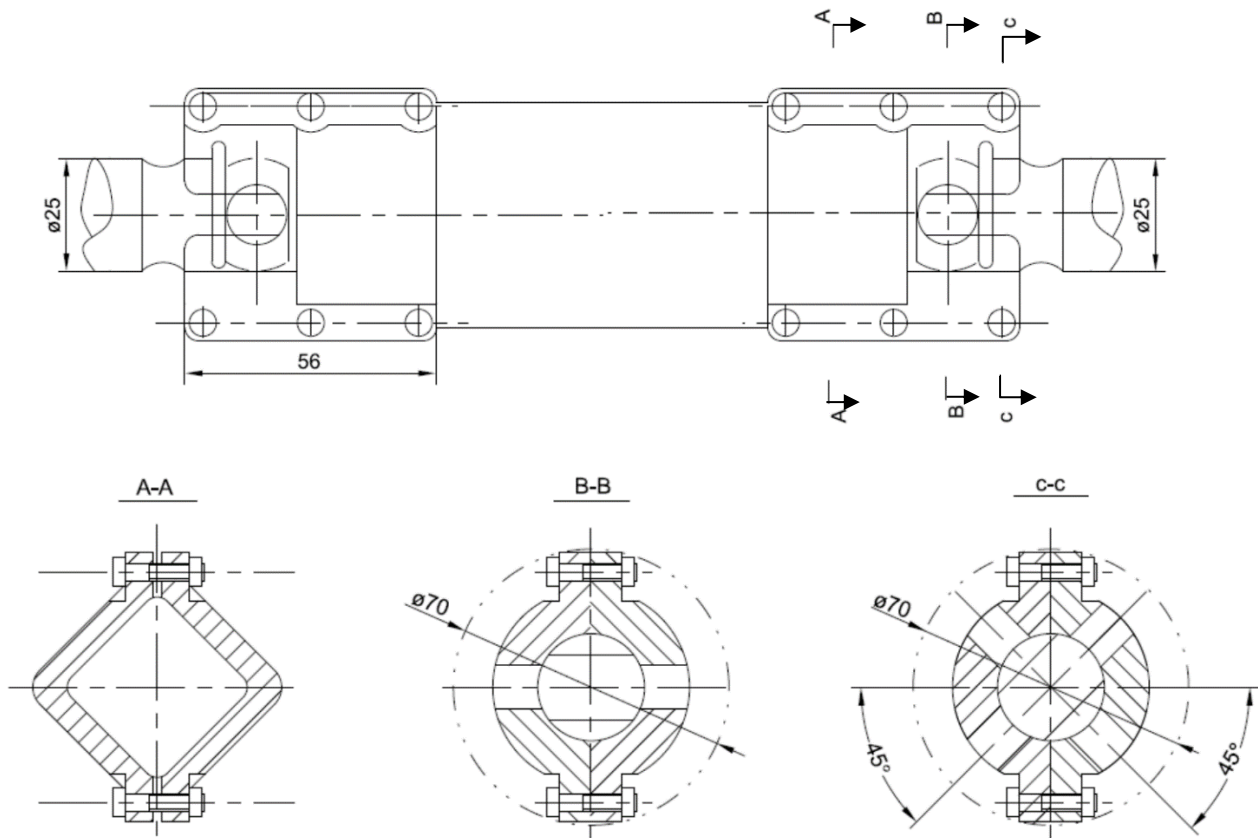

Figure 30 Install the drive shaft
- 1) Install the horizontal and vertical drive shafts according to the relevant Huaming drive shaft instruction manual. (Figure 30)